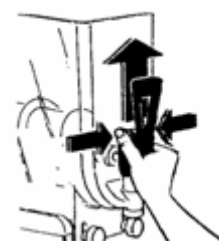

Fig. 24
- Remove the tap from its seating, pressing the two clamping wings at the same time (fig.24) and pushing upwards.